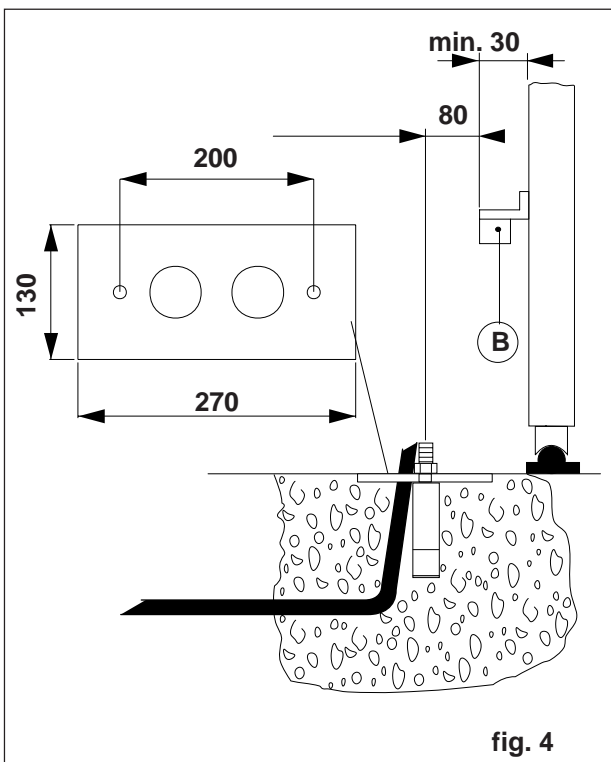

fig. 4
- 3.2** (Fig. 4) Lay a concrete foundation with buried anchoring brackets and the base plate, making sure that it is perfectly level and smooth. Allow for 80 mm between the plate axis and the rack (B). Route the cable ducts through the two holes in the middle of the plate.